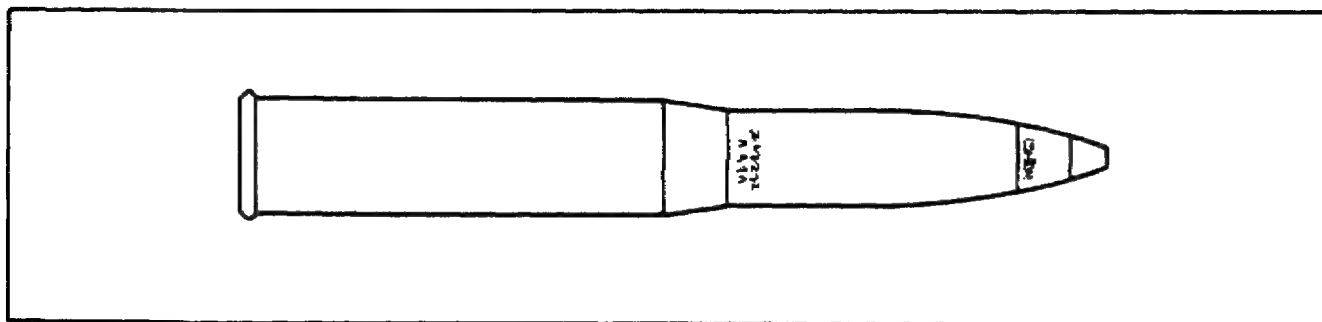

Figure 11. Dummy Artillery Ammunition.
**Dummy Ammunition.** Dummy ammunition is often referred to as drill ammunition. It is used for training gun crews in handling ammunition and loading weapon systems. It is also used in exhibits, displays, and other training operations. This ammunition looks like the actual item, but it contains no explosives or other internal components. See Figure 11.